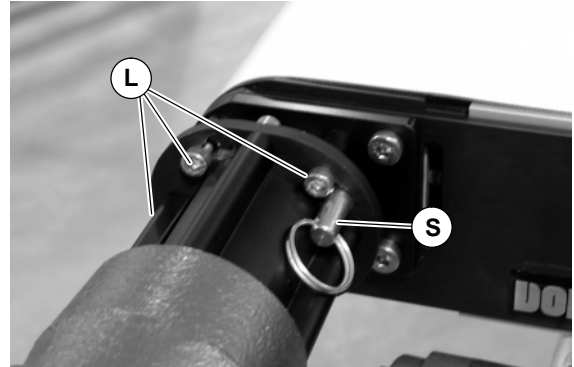

Figure 22
- a. Remove anti-rotation pin (S of Figure 22), loosen four (4) screws (L) and rotate and remove the side drive assembly.